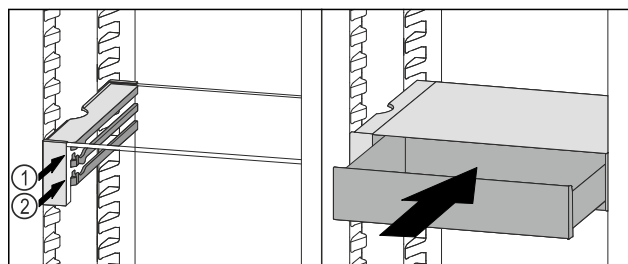

Fig. 150
- Place the VarioSafe drawer behind the stoppers on desired rib *Fig. 150 (1)* or *Fig. 150 (2)*.